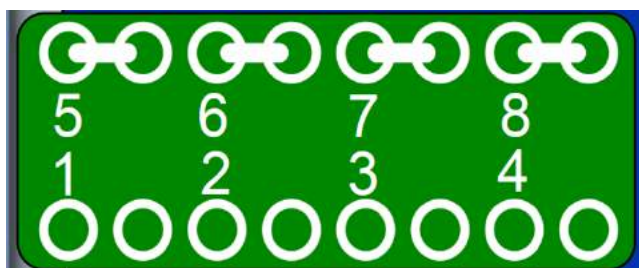

Figure 6. Open contact displays no line
- An open contact will display no line (see Figure 6).
3. Verify the Status change of the device via the Web Home page Digital Input display (see Figure 6).